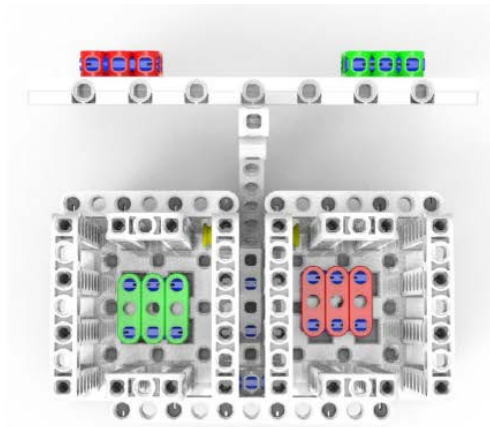

Figure 3-3-3 Waste blocks are not in accordance dustbin colour
3.3.3 Finished status 2: By completing “Recycling Task”, robot will get waste blocks, put the same colour waste blocks into the corresponding dustbin, as shown in Figure 3-1-2, (30 points/each). No points will be scored, if the waste blocks are not in accordance with the dustbin colour, as shown in Figure 3-3-3